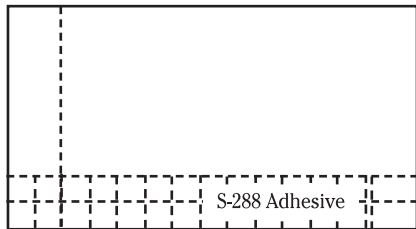

Fig. 5
1. Apply the S-288 or S-543 Adhesive in 2' or 3' bands (Fig. 5), being careful not to cover the chalk lines. Do not apply more adhesive than you can cover within 20 minutes. Allowing a 10-minute open time and fitting the border tile tightly will reduce tile shifting and adhesive oozing. **DO NOT** allow the adhesive to dry completely.